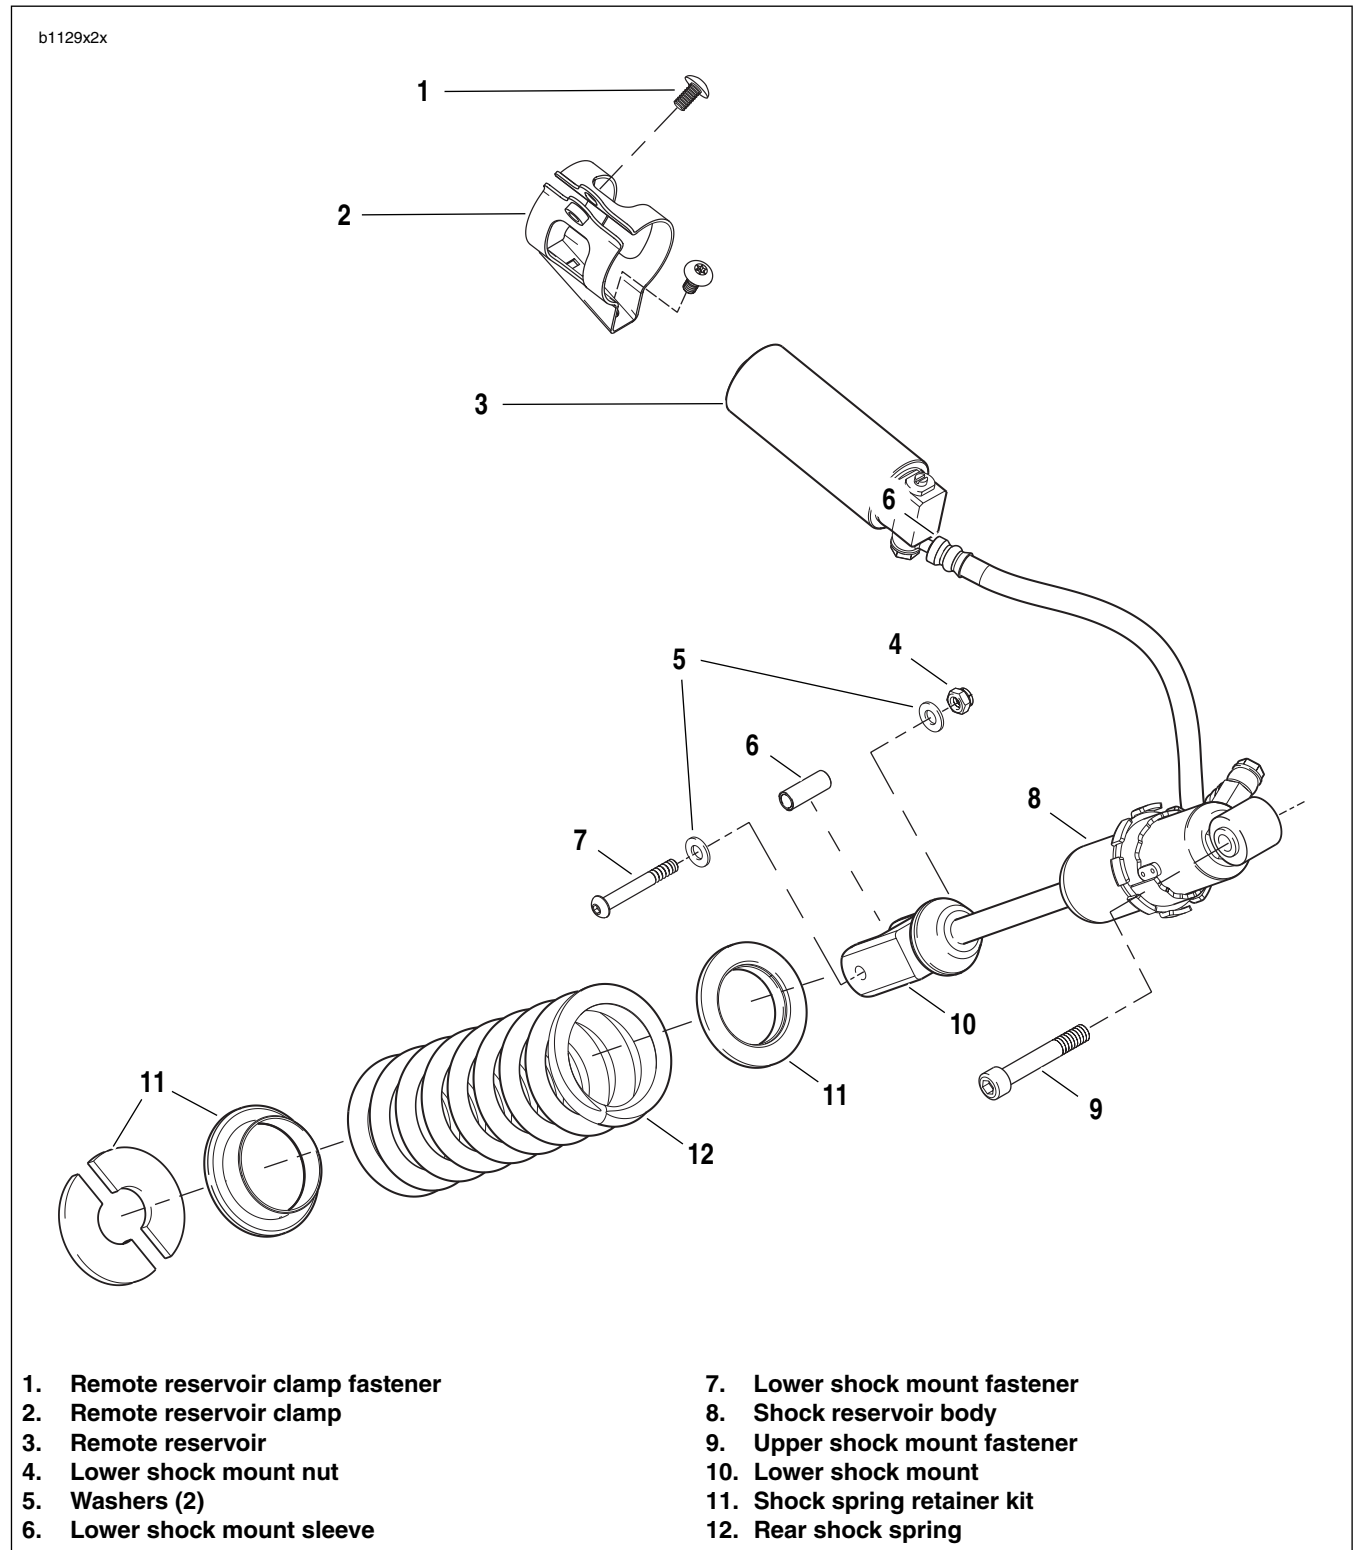

Figure 2-89. Rear Shock Absorber Assembly
2. Install pivot shaft (10) with a special 7/8 in. hex tool located in tool kit, ANTI-SEIZE and tighten to 24-26 ft-lbs (32-35 Nm).
3. Tighten pivot shaft pinch fastener (7) to 17-19 ft-lbs (23-26 Nm).
4. See Figure 2-89. Install lower shock absorber mounting fastener (7) and spacer from shock absorber and swingarm and tighten to 15-17 ft-lbs (20.3-23 Nm).
1. See Figure 2-89. Install rear shock assembly in upper shock mount
2. Install fastener (9) and tighten to 49-51 ft-lbs (66-69 Nm).
3. Install lower shock mount with fasteners (4, 5, 7) and lower shock mount sleeve (6) and tighten to 15-17 ft-lbs (20.3-23 Nm).